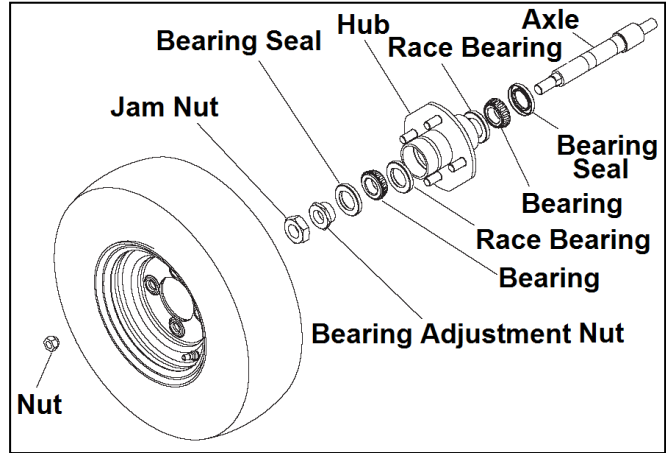

Figure 6-1
2. 3-Wheel Model with suspension fork. See Figure 6-1. Remove lug nuts and wheel assembly from the hub. Remove the hub components shown in Figure 6-1.
1. 3-Wheel Model with suspension fork. See Figure 6-1. Clean spindle. Apply a thin coating of grease and install hub onto the spindle. Install inner bearing seal and bearing, hub, bearing, bearing seal and adjusting nut. Tighten adjusting nut until resistance is felt when turning the wheel hub, then back off slightly. While holding adjusting nut, install and tighten jamnut. Place wheel assembly on the hub studs. Tighten four lug nuts by hand and wrench until snug using a criss-cross pattern.